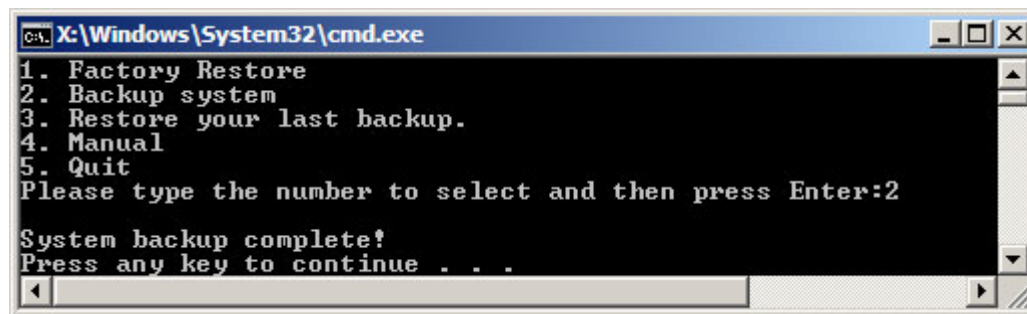

Figure C-30: System Backup Complete Window
Step 6: The screen is shown as in **Figure C-30** when system backup is completed.